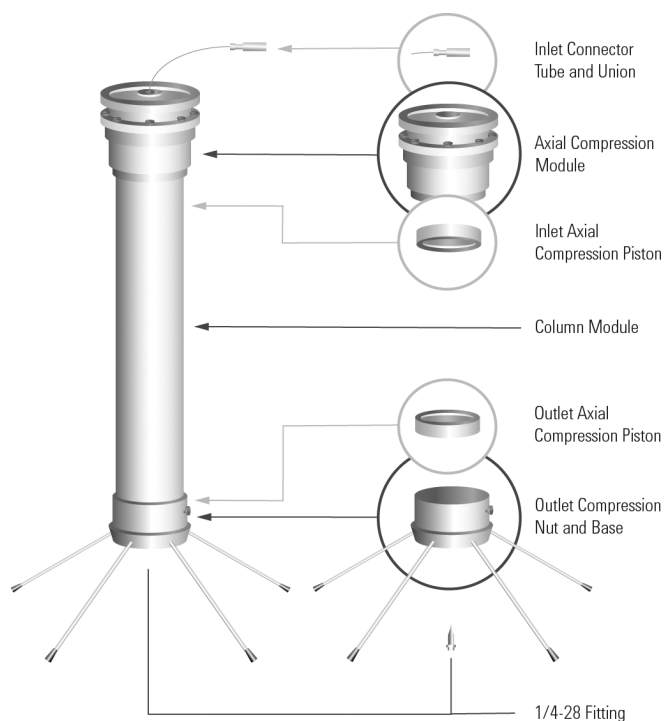

Figure 2. Components of Dynamax 41.4 mm End-Fittings Kit No. 1. (Column module not included in Kit.)
Each kit also contains connections required to attach the Column Module to your HPLC system. These connections consist of Female-Female Union for 1/16" od tubing and a plastic reusable connector for SSI-type fittings. A 20 cm-length x 1/16" od x 0.030" id stainless steel tube is provided with 1/4-28 male nuts and ferrules swaged onto either end. One end of the tubing is inserted into the Union; the remaining end is for connection to the column inlet. The plastic reusable fitting connects the Column Module to your HPLC system via the Union. (See Figure 2.) You should also have two extra 1/4-28 male nuts and two ferrules.
3.2. Before assembling the Column Module please refer to Figure 2.